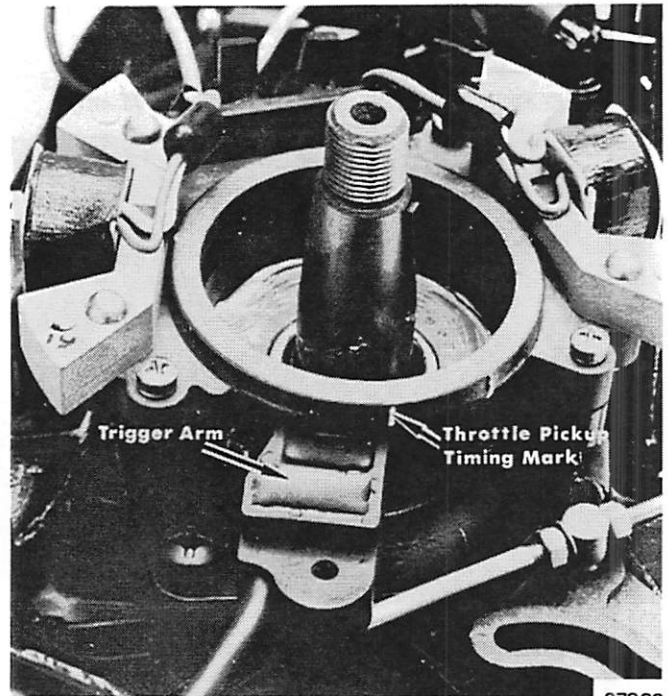

Figure 2. Throttle Pickup Timing
8. Turn twist grip to open throttle to align side of trigger arm with timing mark as shown in Figure 2.